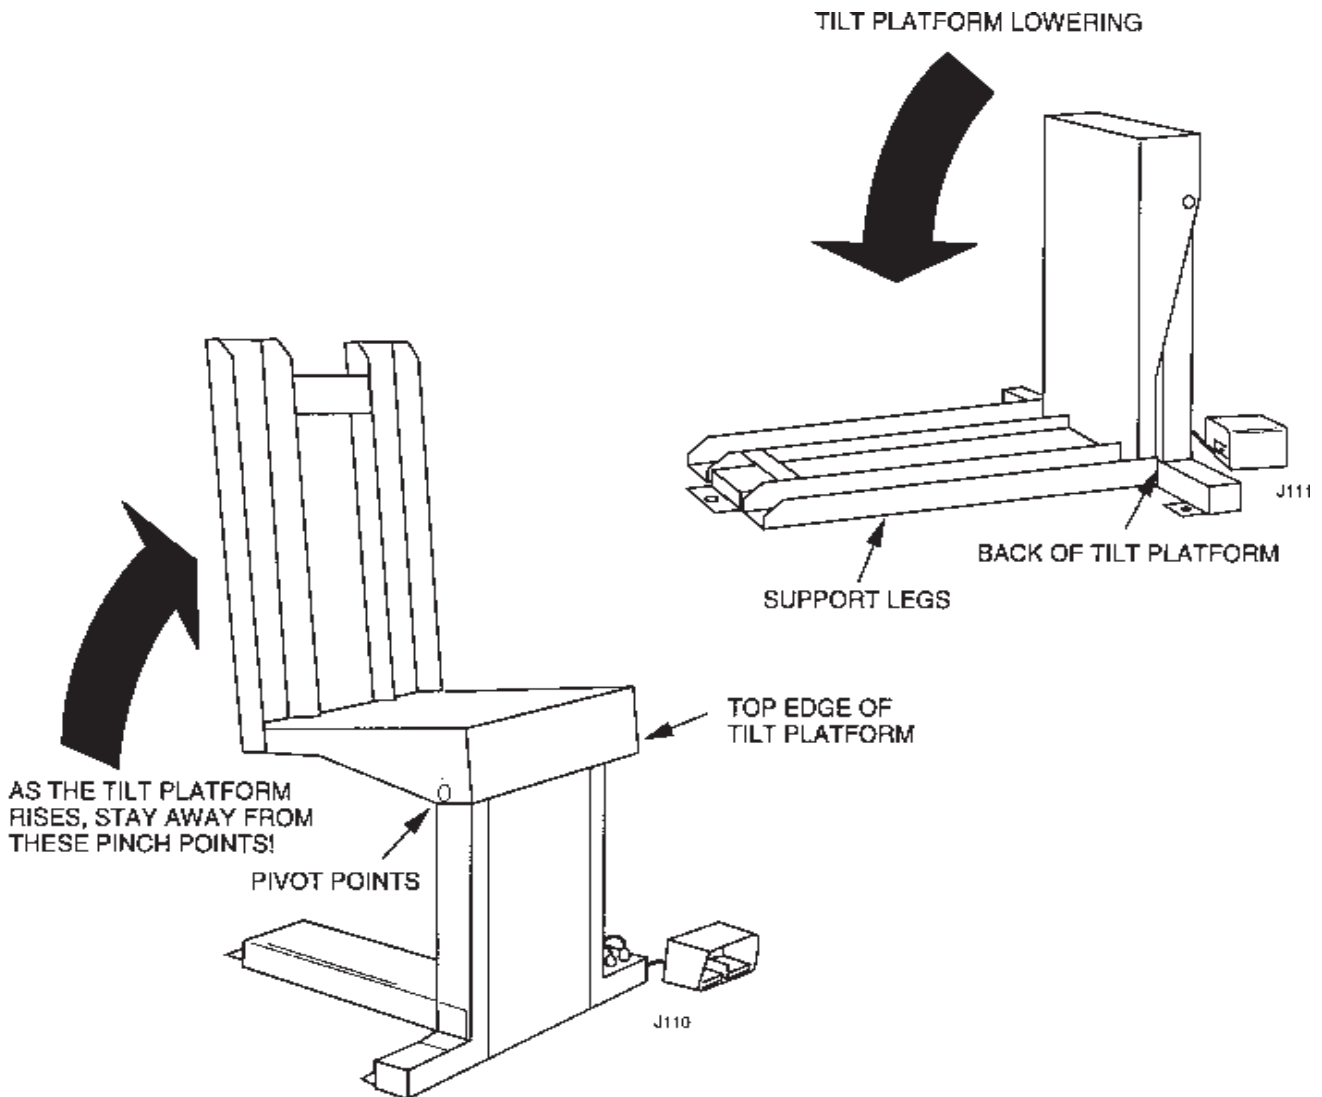

Fig. 2. Pinch Points
As the tilt platform moves up and down, "pinch points" are created at the places shown in Fig. 2. If you are standing too close to the unit when it is moving, your arm or leg may be caught in the moving parts, and you may be hurt. Stay away from the pinch points when the unit is moving.
As the tilt platform moves up and down, "pinch points" are created as shown in Fig. 2. Stay away from these pinch points! Part of your body or clothing may become caught, and you may be hurt. Do not put your hands or feet under the tilt platform. Do not stand or sit on the tilt platform.
- As the unit moves up and down, "pinch points" are formed as shown in Fig. 2. **Keep hands, feet, and loose clothing away from these pinch points.** If your hand or arm or a part of your clothing is caught, you may be hurt.